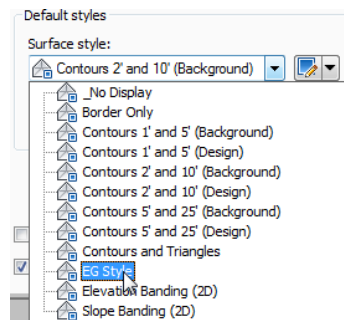

Figure 3-59 Selecting the EG Style option from the Surface style drop-down list
4. In the **Default styles** area of the tab, select **EG Style** from the **Surface style** drop-down list, as shown in Figure 3-59.